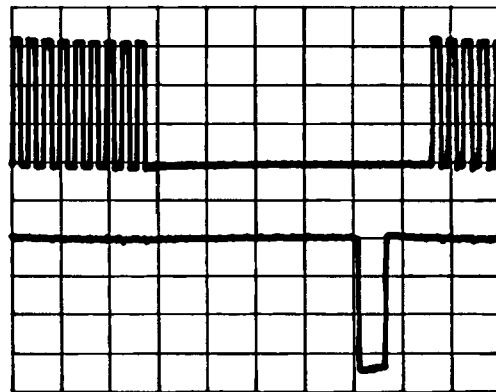

Figure 8-34. XA2A11C-1, GO
10. Connect channel 2 of the oscilloscope to XA2A11C-1, GO. The waveform should be as shown in figure 8-34.